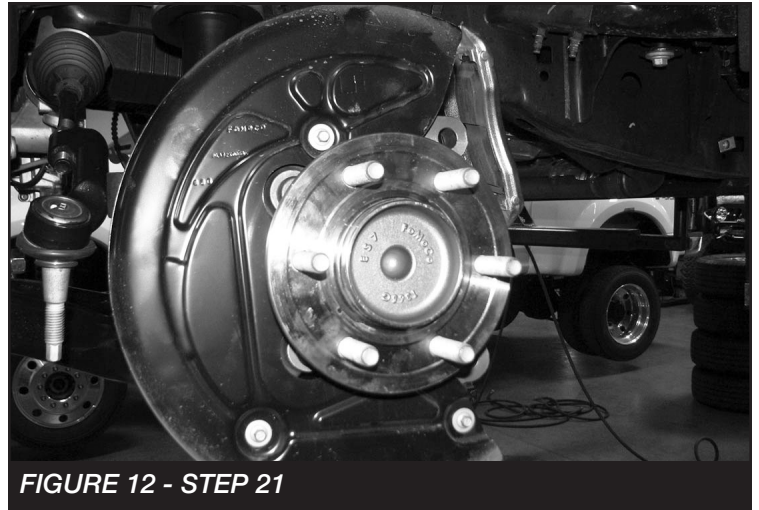

FIGURE 12 - STEP 21
21. Reinstall the ABS sensor to the new spindle using the factory bolt. Install the factory dust shield and brake rotor. **SEE FIGURE 12**